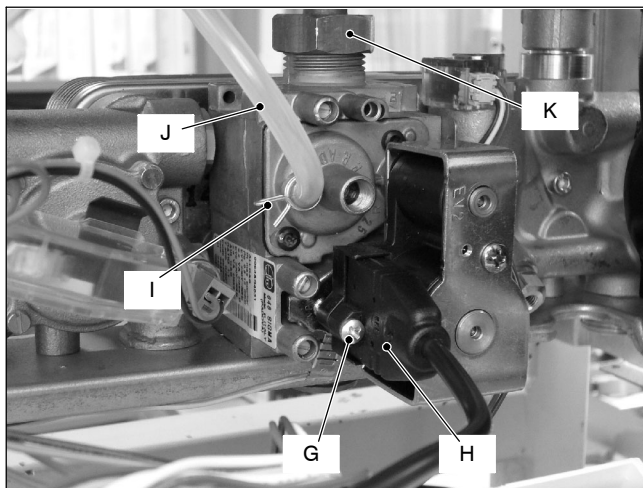
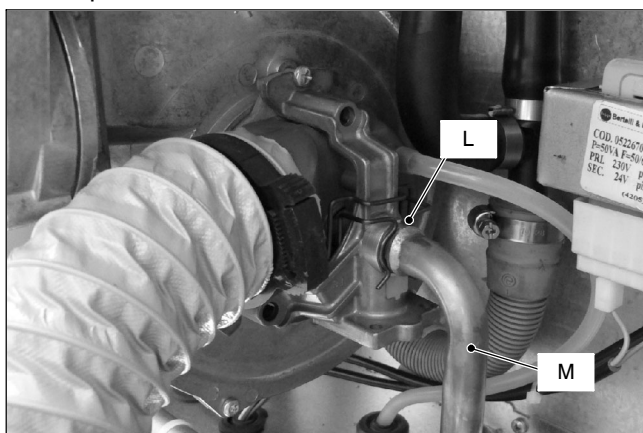

Fig. 11.9
Fig. 11.10
- 2 Remove the screw G and disconnect the connector H (Fig. 11.9).
- 5 Unscrew the connector *K* (Fig. 11.9), remove the fixing fork *L* and remove the pipe *M* (Fig. 11.10).